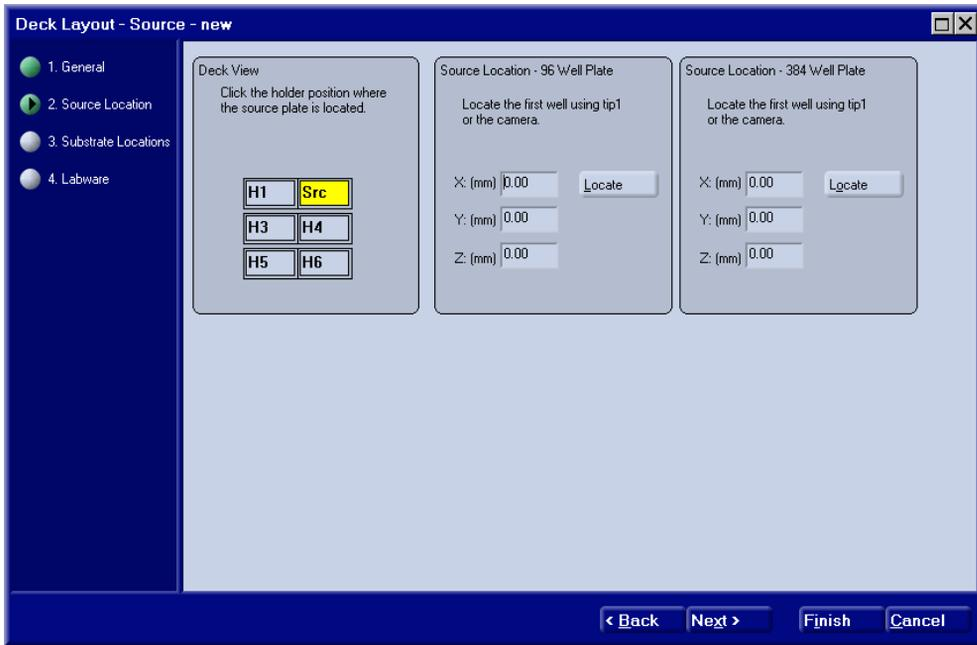

Figure 3-20. Deck Layout Definition - Source Page.
3. Click the **Next >** button to advance to the Source page of the Deck Layout Definition (Figure 3-20).